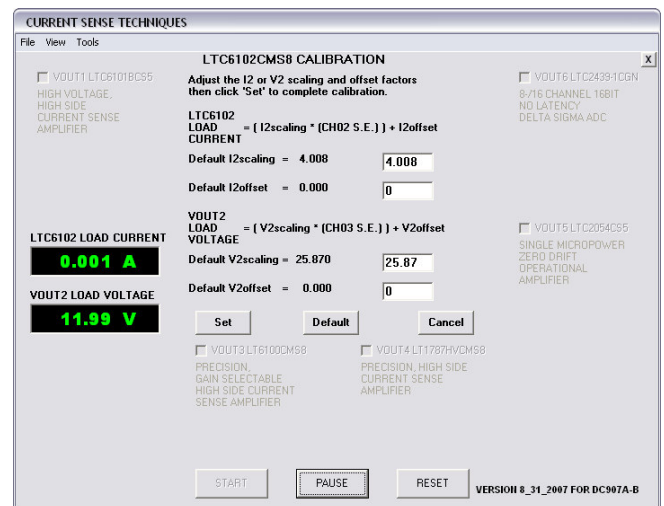

Figure 16. Individual Calibration Screens allow Tuning of the Display Functions
2. The software also provides the ability to modify scaling factors and offsets in both the current and voltage calculations of each demonstration sub-circuit. This is useful for fine-tuning the constants to perform accurate calibrations, or to allow flexible reprogramming to reflect intentional component changes. This feature is accessed during data acquisition by way of the Calibrate... selection under the Tools menu. For each active demo sub-circuit, a small calibration screen can be opened that allows modification of the four constants. Figure 16 shows a typical calibrate screen. Each constant may be modified by mouse-clicking to place an editing cursor into the appropriate field and then making a change. After all desired changes have been made, mouse-click the Set box to begin using the new values. If undesirable changes are made, the Default box may be mouse-clicked to restore factory entries (the Set box will still need to be used afterward). The Cancel box is used to simply close out a screen without taking changes. Any value changes made are lost when the setup screen RESET box is used or the DC907 program is terminated.